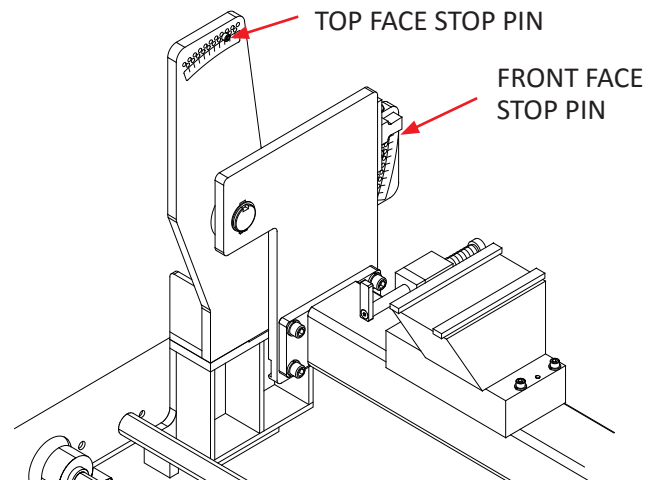

FIG. 32
3. Move the TOOLING ROTATION STOP PIN for the front face to the correct angle. See FIG. 32.
4. Move the TOOLING ROTATION STOP PIN for the top face to the correct angle. See FIG. 32.